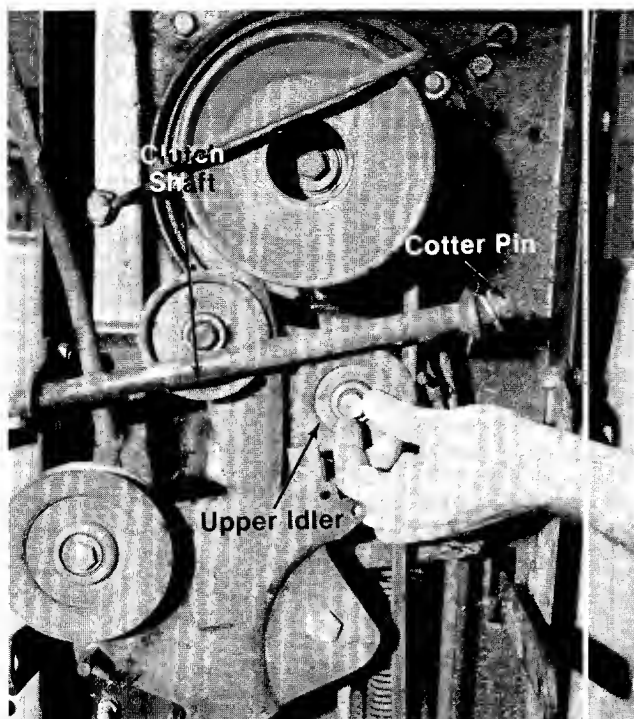

FIGURE 20.
8. Remove the cotter pin from the clutch shaft and pull it out of the bracket. See figure 20.